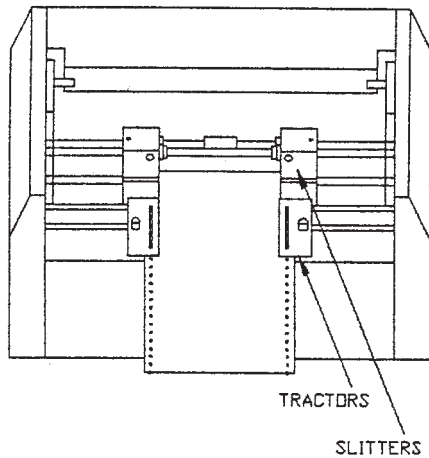

FIG 13
1. Noting the Blade Indicator Marks on the Upper Guide table so the Edge Slitters, position each Edge Slitter in from of the corner edges of the form to trim edges as desired. (Fig. 13)